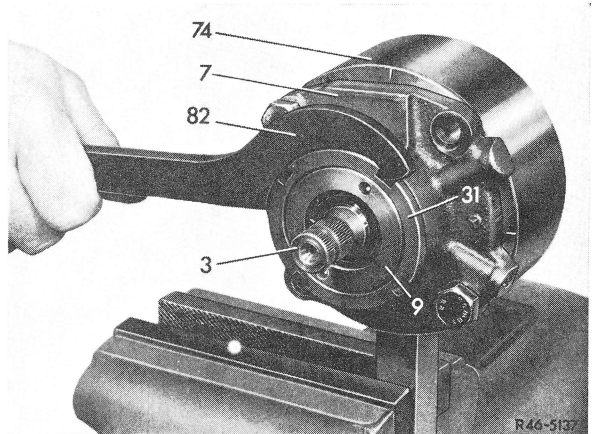

Fig. 14
14 Remove O-ring (46) from bearing cap (7) and attach bearing cap in device (74) (Fig. 14 and 18).
15 Unscrew slot nut (31) with hook wrench (82) or slot nut wrench (90) from bearing insert (9) (Fig. 14 and 15).